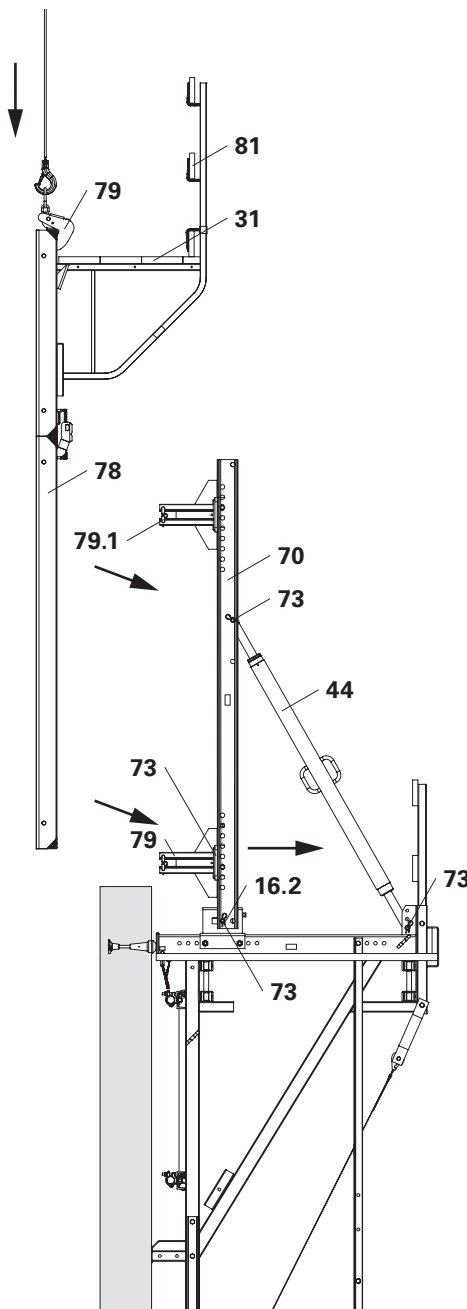

Fig. B2.19
2. Fix Connectors TRIO-CB (79) to the Strongback CB (70) using Bolts  $\varnothing 25 \times 180$  (73) and Cotter Pins 4/1.
3. Fix Strongback CB to the Adjusting Unit CB by means of Bolts  $\varnothing 25 \times 180$  (73) and Cotter Pins 4/1.  $\varnothing 25 \times 180$  (73) and Cotter Pins 4/1.
4. Fix Adjustable Brace CB 164-224 (44) to the bracket and Strongback CB using Bolts  $\varnothing 25 \times 180$  (73) and Cotter Pins 4/1.
5. Brace Strongbacks laterally. (Fig. B2.19)